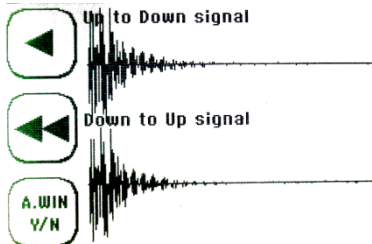
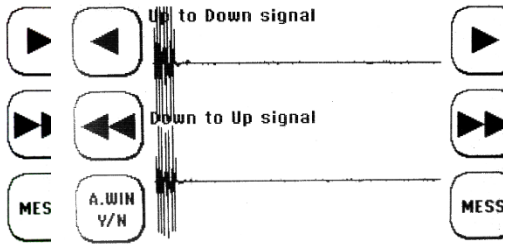

Figure 23: Transducer connected, no acoustic contact (without Magnalube)
Figure 24: Transducer not connected (relicts of the transmitted signals)
- 2) In contrast, in the case of defective ultrasonic transducers or signal cables, ONLY the relicts of the transmitted signals can be seen immediately from the start of the measurement window. The signal characteristics range between Figure 23 and Figure 24. Transmitted signal relicts can also appear with correctly functioning transducers, but are then small compared to the useful signals.